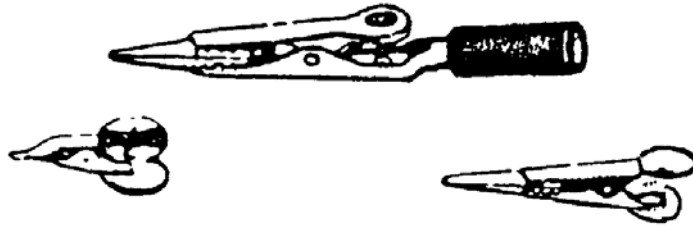

Figure A-5. Thermal Shunts
(3) Thermal shunts (Figure A-5), commonly called heat sinks, are used to protect heat-sensitive devices and components by dissipating the heat from the soldering iron or gun. The heat sink, usually a clip-on device, is placed on the lead to be soldered between the solder connection and the component.
- a. Attach a heat sink or clamp (see Figure A-5) on the lead of the part being removed from the PCB; this ensures that the clamp (not the component) absorbs the heat from the soldering iron.